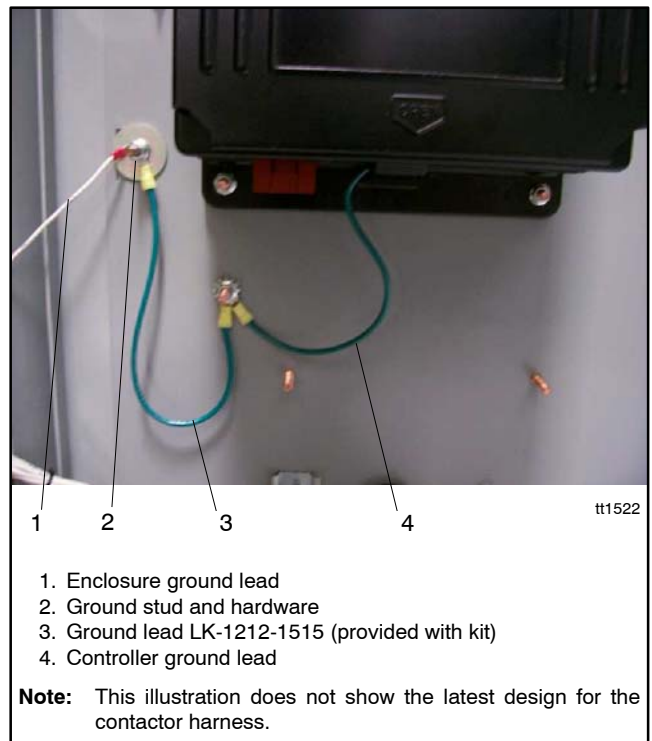

Figure 29 Ground Lead Connections
19. See Figure 29 for ground connections. Use green grounding lead LK-1212-1515 to connect the ground stud on the conversion panel to the ground lug on the door. Using a lock washer (X-22-12), connect the ground wires to the ground stud on the door. Place the grounding wires between the washer and the nut.